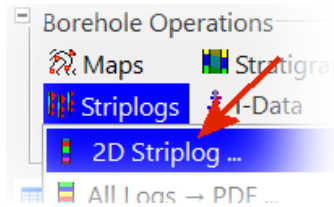

Figure 2
- Select the *Borehole Operations / Striplogs / 2D Striplog* program from the main *RockWorks* menu (Figure 2).